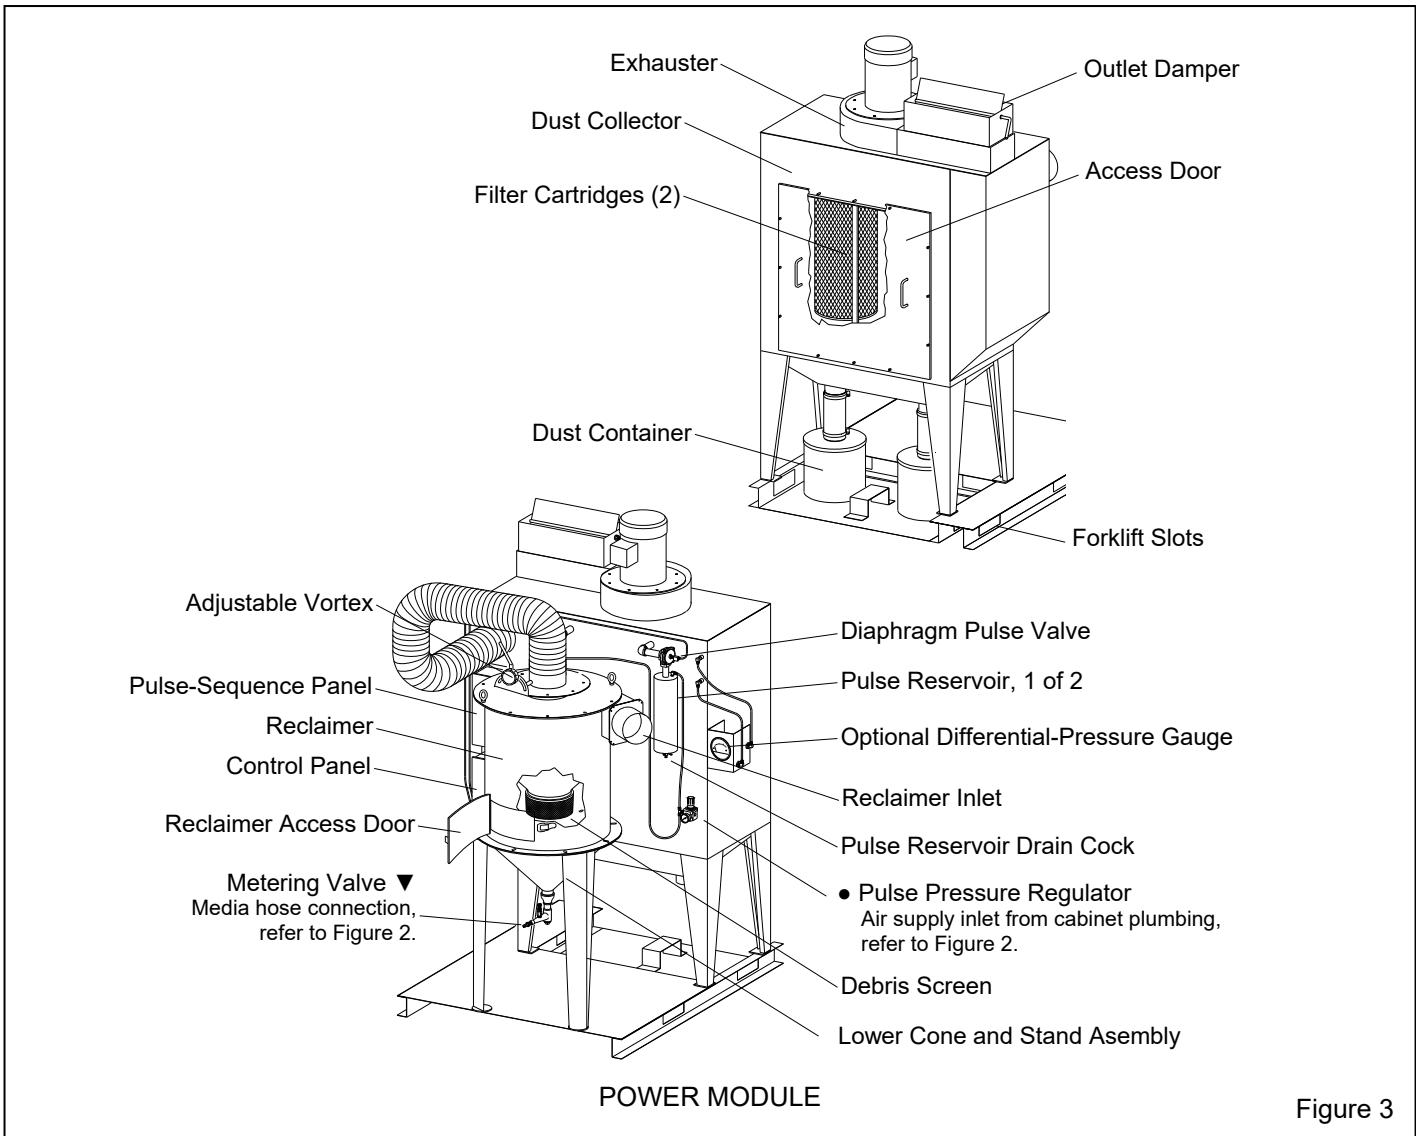

Figure 3
**1.4.1** Refer to Figure 1 for the general arrangement of the cabinet and power module. Components of the cabinet assembly are shown in Figure 2 and components of the power module are in Figure 3. The Pulsar cabinet encloses the blasting environment to provide efficient blasting while maintaining a clean surrounding work area. Production rates are influenced by size of air jet and nozzle, compressor output, working pressure, type and size of media, and angle and distance of the nozzle from the blast surface. The Pulsar IX suction cabinet consists of two major components.